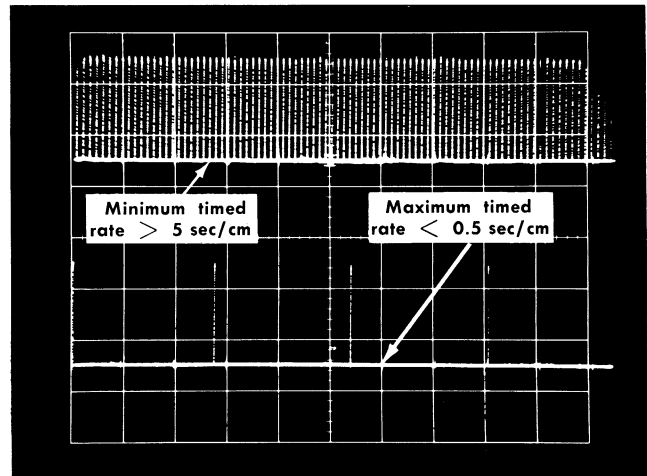

Fig. 5-27. Double exposure showing maximum and minimum sweep rates with Timed ADJ control set fully counterclockwise and fully clockwise.
h. **Check** for an equivalent sweep rate of 5 (or more) seconds per cm (5 or more markers per cm). A typical display is shown in Fig. 5-27.